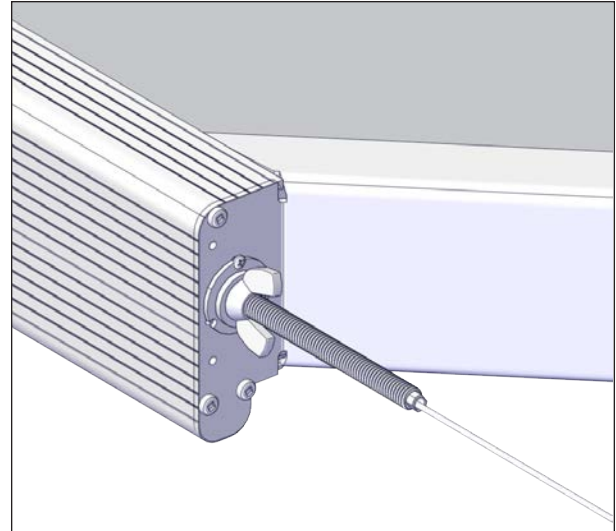
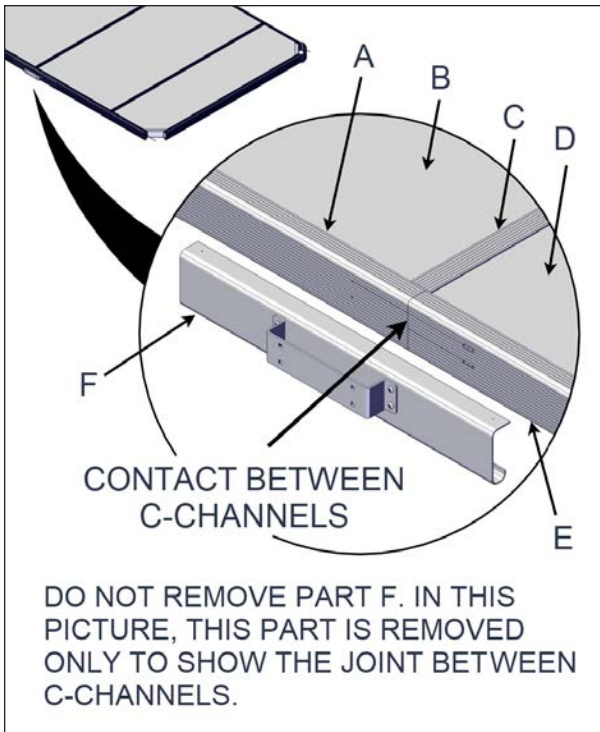

FIGURE 61: WIRE TIGHTENING
FIGURE 62: GAP BETWEEN THE C-CHANNELS
1. Wear gloves and tighten the wing nut on the hollow bolt in order to compress the panels on the I-beams. Tighten simultaneously the 4 wing nuts by keeping the same number of turns to avoid that mobile parts get stuck on the C-channels (Figure 61) and check the gap between the C-channels, see Figure 62.
2. Repeat the process again and again until the short and long C-channels touch each other, see Figure 62.